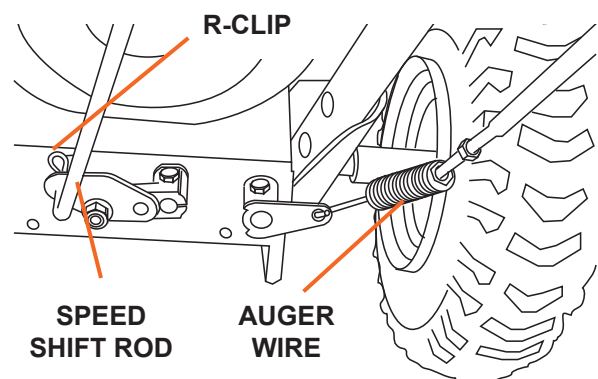

Figure 3
3. Attach the auger wire on the right side of the snow blower (see Figure 3). Remove the R-clip that connects the auger wire to the control lever on the handlebars, then slip the wire off. Attach the other end of the auger wire with the spring mechanism to the connection and reattach the auger wire to the control lever reinserting the R-clip. After connecting the wire adjust the tension. The wire should be taught when connected. (See Control Wire Adjustment, page 23).
4. Attach the speed shift rod and secure with a R-clip that has been included in the hardware package (see Figure 3).